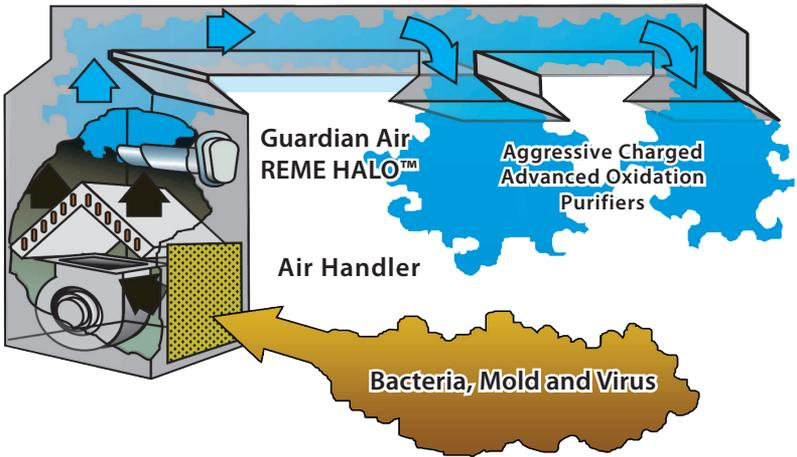

Figure 1
- To maximize the effectiveness of the Guardian Air REME HALO™, it is recommended (whenever possible) to install the Guardian Air™ unit in the air plenum just after the air handling unit (supply side). Refer to **Figure 1** for clarification.